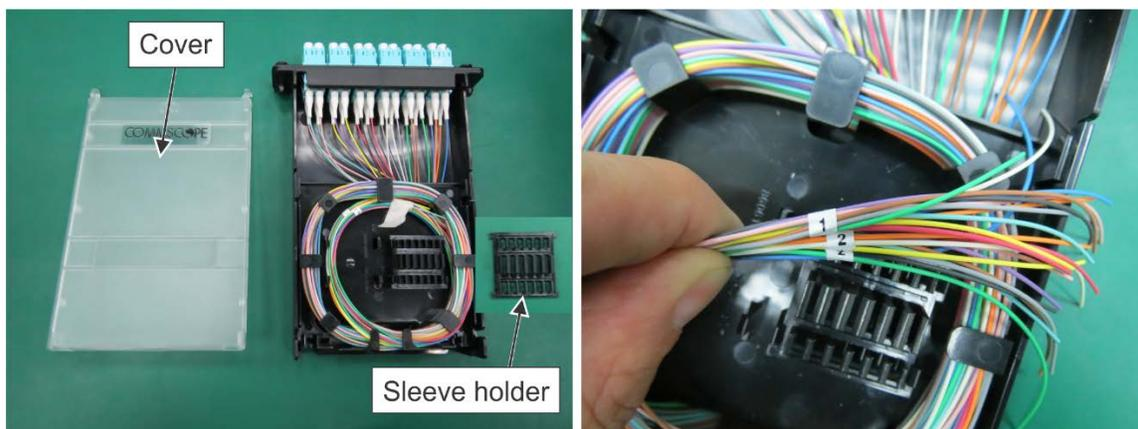

Figure 2. Prepare Fiber in Cassette
1. Remove cover from cassette and if it is a 24LC type, also remove the sleeve holder as shown (Figure 2).